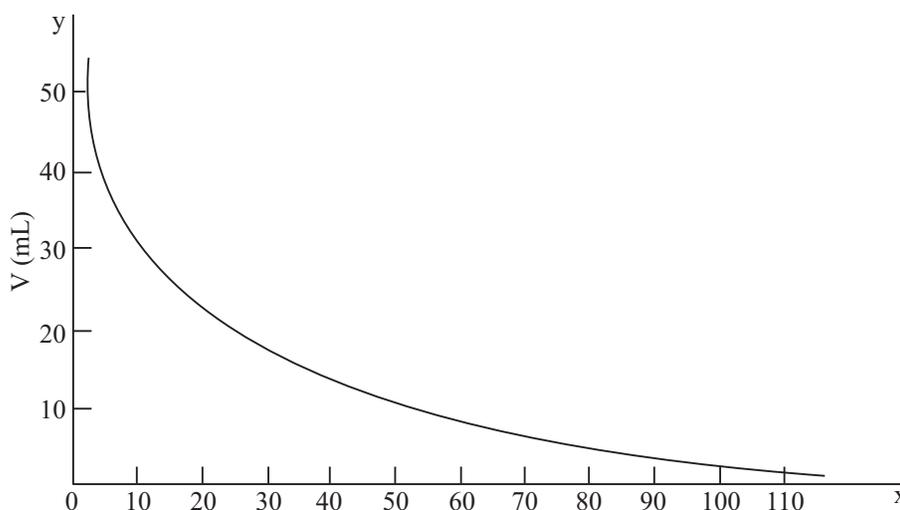

Fig. 9.3: Graph between volume of water in burette and observed time
- (v) Plot a graph between volume of water in the burette,  $V$  (along  $y$ -axis), versus observed time,  $t$ , in the stop clock (along  $x$ -axis) (Fig. 9.3).